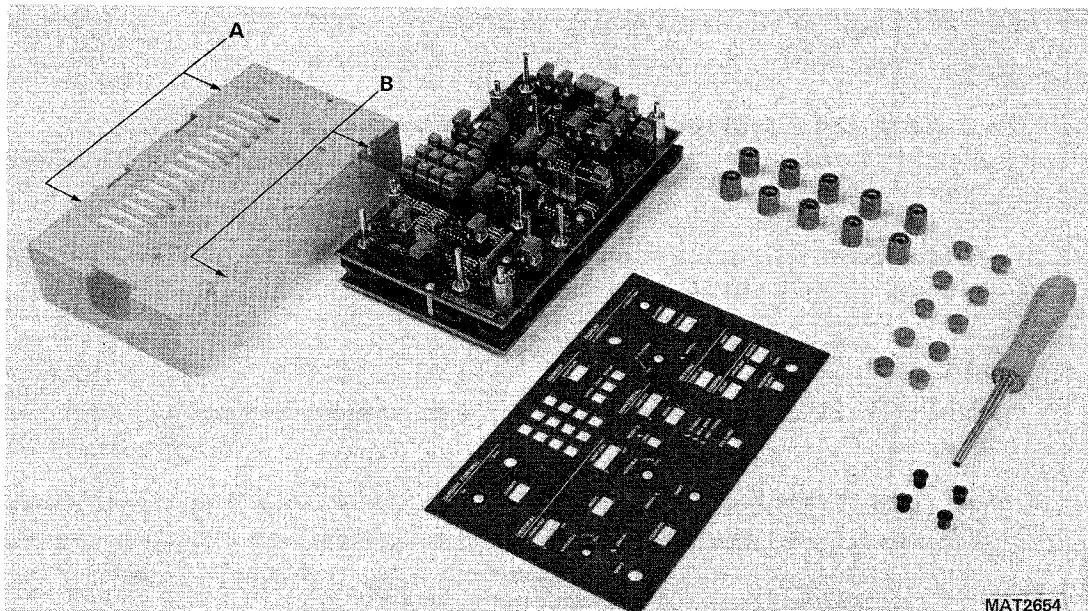

Figure 10.5 Disassembled front unit.
- Remove the two screws A (figure 10.5) at the upper side of the front unit.